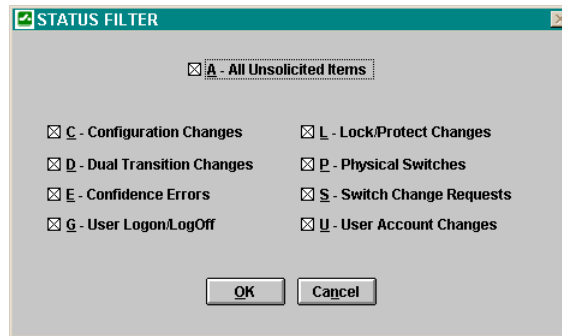

Figure 61 Status Filter Window
8. Click the **Status Filter** button to open the STATUS FILTER window (Figure 61). This is only available for Unsolicited Status Protocol (USP).